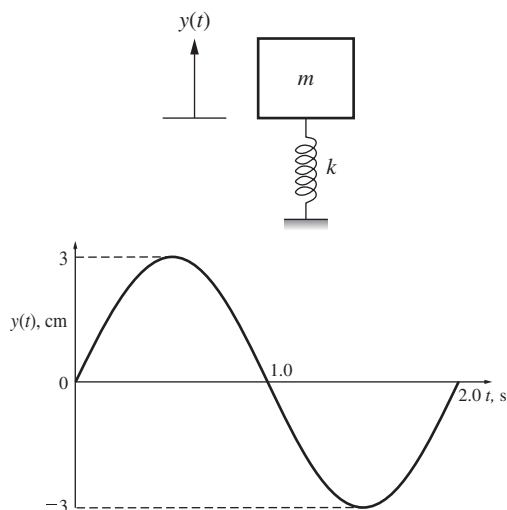

Figure P6.7 Sinusoidal motion of a spring-mass system in the y -direction for problem P6-7.
- 6-7.** A spring-mass system moving in the y -direction has a sinusoidal motion as shown in Fig. P6.7. Determine the amplitude, period, frequency, and phase angle of the motion. Also, write the expression for $y(t)$.